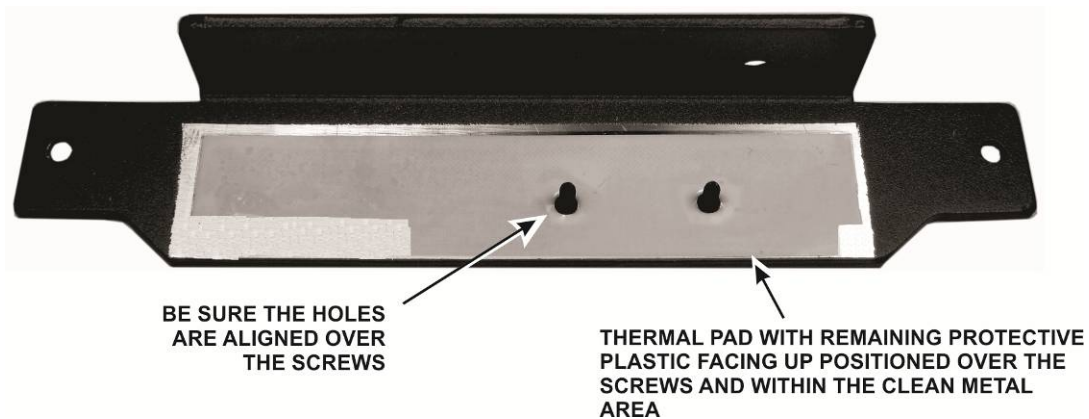

Figure 36. Placing the Thermal Pad on the Heat Sink.
□ Carefully position the thermal pad on the heat sink as shown in Figure 36. Be sure the adhesive side is against the metal and the clear plastic protective film is facing upward. Rub the center area of the thermal pad to help it adhere to the metal. Remove the screws and return them to the proper parts envelope.